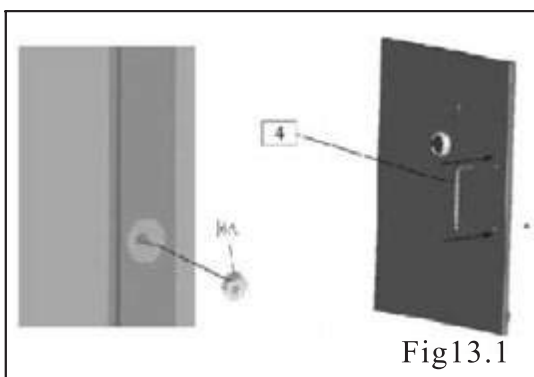

Fig13.1
Attach the big spring handle to the upper door with (2) #10-24X3/8" shoulder bolts. Fig 13.1